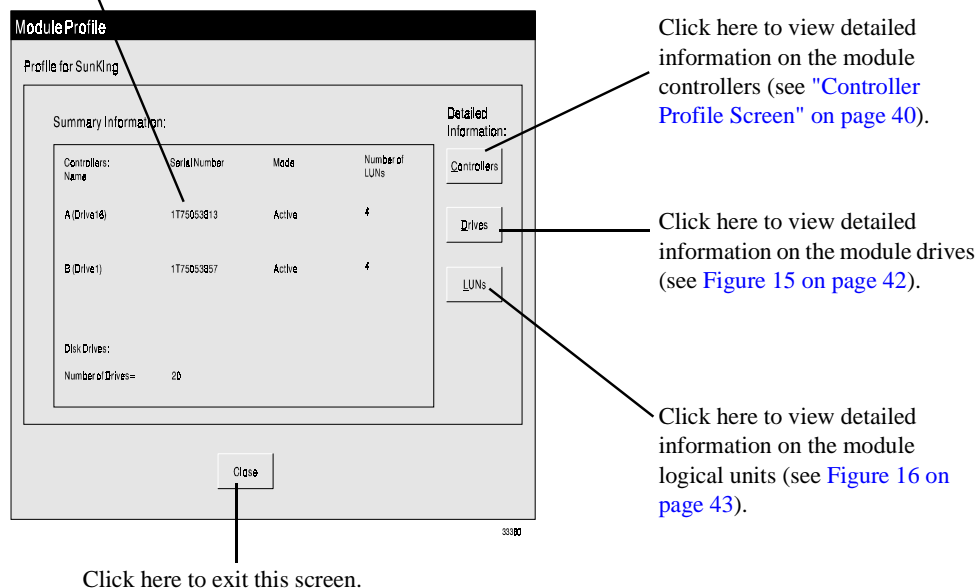

Figure 13. Module Profile Screen
3. Click on the Module Profile button or select Module → Profile from the drop-down menus. The Module Profile screen is displayed (see Figure 13).